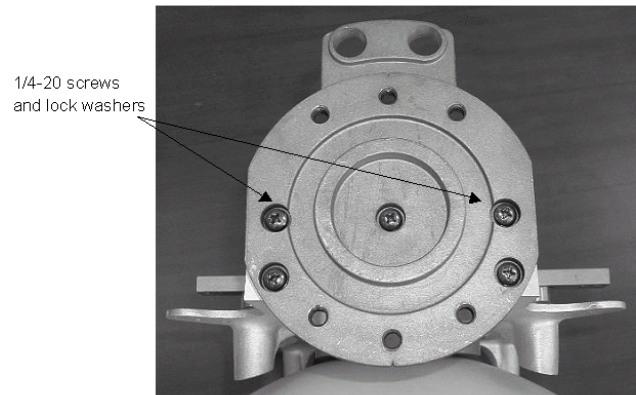

Figure 4-9: Mounting the Elevation Adjustment Plate
8. Fasten the elevation adjustment plate to the brass plate, as shown in Figure 4-9.